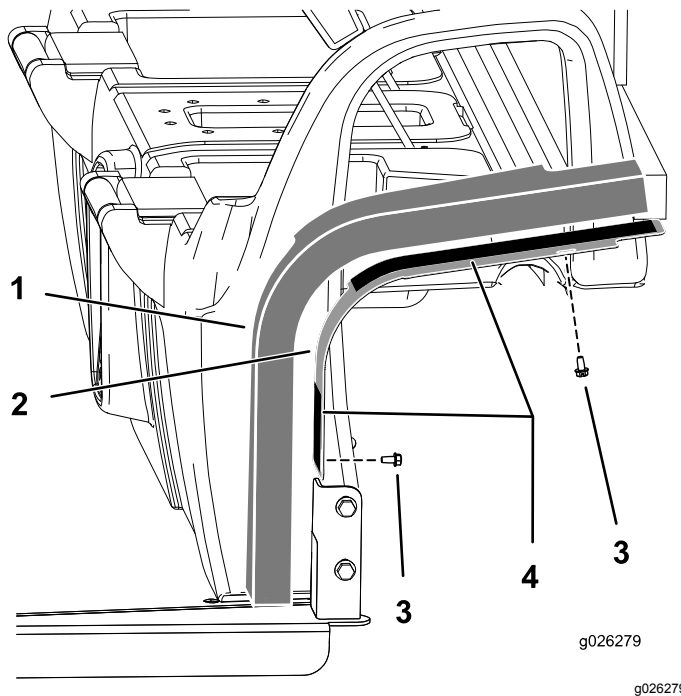

Figure 6
1. Fasten the mounting plates onto the cab using 4 bolts (1/4 inch) as shown in Figure 6.
3. Remove the paper backing from the double stick tape on the mounting plates (Figure 6).
4. Install the foam panels onto the assembly (Figure 6).